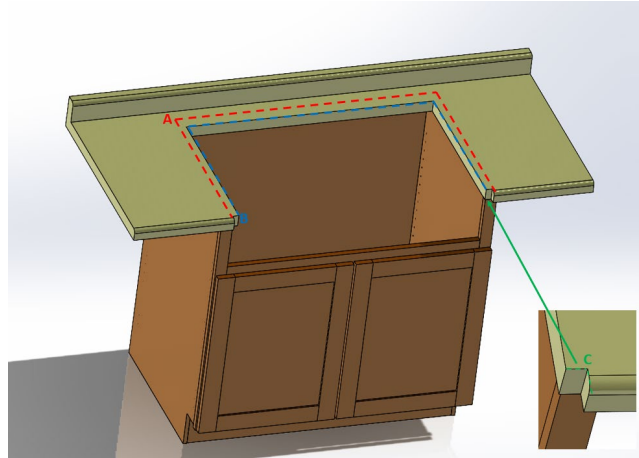

FIGURE 1.
1. Please reference Figure 1 below throughout the installation. However, due to the material every sink is not approximately the same. Please measure and dry fit before making cuts into countertop and installing.
NOTE: Figure 1 diagram is for reference only.
2. Position sink upside down on a piece of cardboard and trace the perimeter edge of the sink rim (See trace line "A" in Figure 1). Add a second line approx.  $\frac{3}{4}$ " inch inside of that line (See cut line "B" in Figure 1). Cut out the traced template using the second line (line "B"). NOTE: The apron front is designed to extend past the front of the cabinet. Take this measurement before making any cuts. When making the cut-out measurements, accommodate for the apron depth to extend past the cabinet front and align flat against the front.
3. Make cuts to the countertop and cabinet front to accommodate the apron sink using your cut-out template. For a standard sink base cabinet, the front drawer/false front will need to be removed as well as the top header support rail. Please note that notches will need to be cut on the front countertop edge to accommodate a flush-fitting apron front (See notch-out "C" in Figure 1).